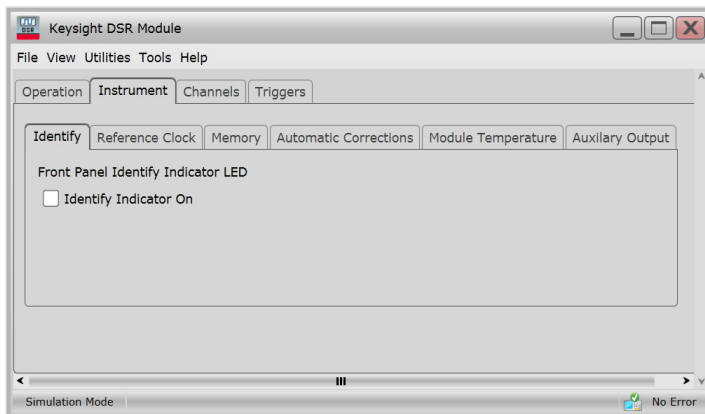

Figure 11 Reminders to disconnect inputs
- 10 If you have not yet removed all cables connected to the M9195A/B, disconnect them as you are prompted by the SFP (as in Figure 11).